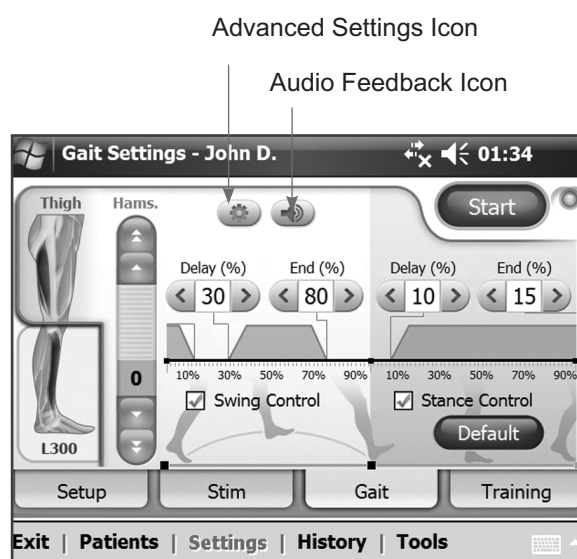

Figure 7-25: Gait Settings window, Thigh *Hamstrings*.
1. Press the **Gait tab** and the **Thigh tab** to open the Gait Settings window. See Figure 7-25.